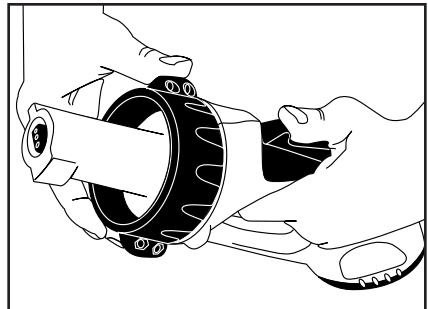

Figure 3
1. Twist the lock ring on the power handle to the unlocked position. (see figure 3)